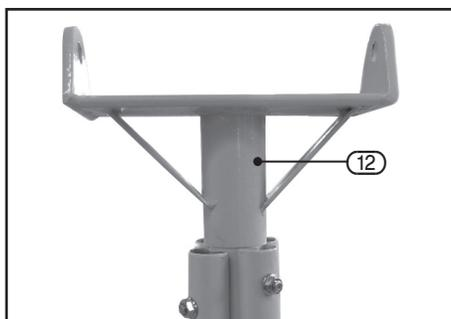

FIG. 4
8.2 ADD PIVOT BRACKET – FIG. 4